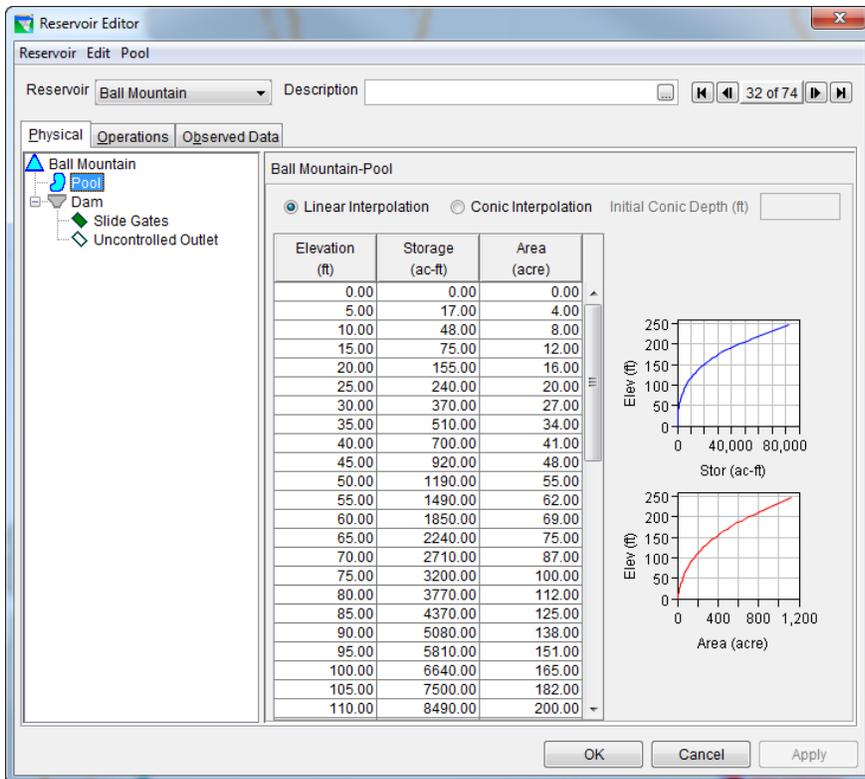
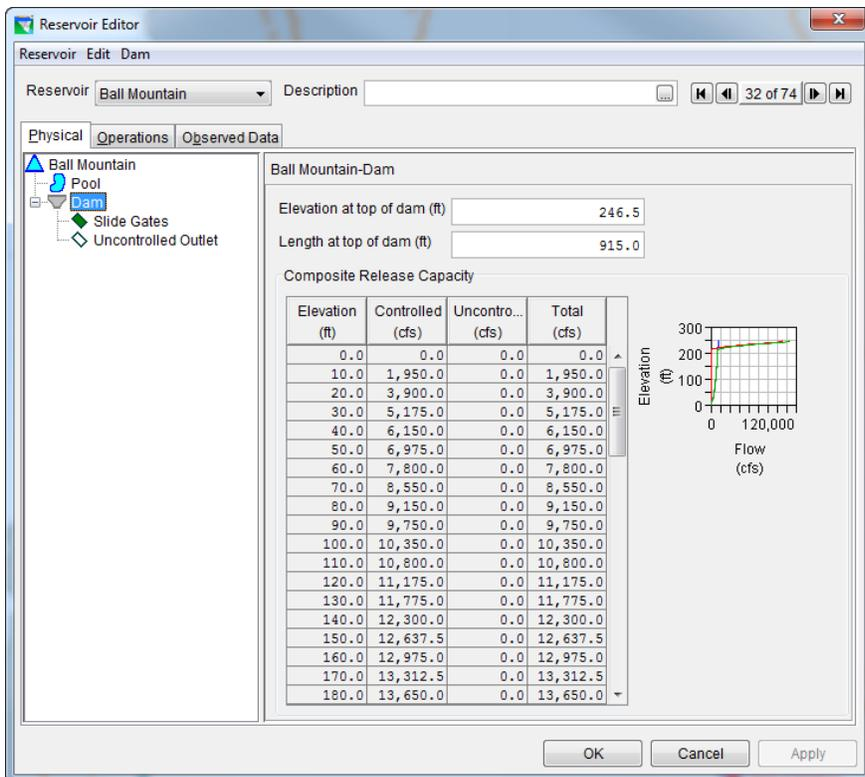

Figure 3: Reservoir Editor: Physical Tab -- Pool
Figure 4: Reservoir Editor: Physical Tab -- Dam
The physical characteristics of the reservoir are separated between the Pool and the Dam in the HEC-ResSim model. The elevation-storage-area defines the pool as shown in Figure 3. The dam consists of two types of outlets: (1) controlled slide gates, and (2) uncontrolled outlet, as shown in Figure 4. All physical and operations data were provided by US Army Corps New England District, through both a previous ResSim model and the Reservoir Regulation Team website1.